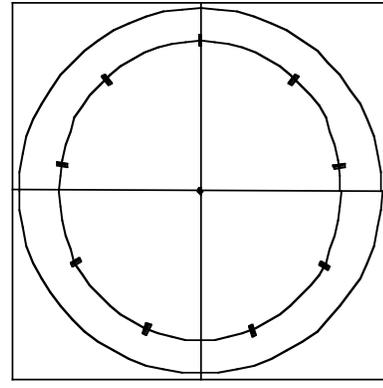

Fig. 2 – Evenly mark # scallops on inner circle
8. Divide 360 degrees by the number of scallops to get **X**, the angle between each scallop. Using a protractor, put a mark on the inner circle at every **X** degrees (Fig 2). You can start marking at any point on the circle.